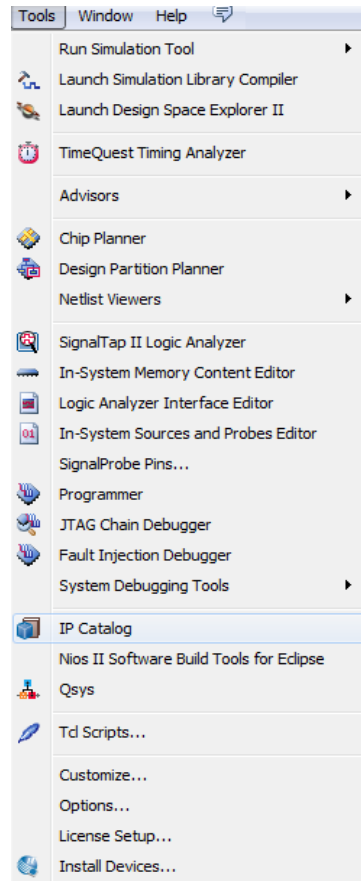

Figure 3-8 Tools Icon
2. Tools > Click IP Catalog (see **Figure 3-8**).